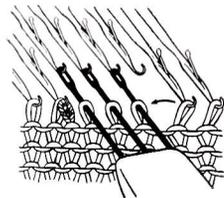

Fig. 69
- b. Using the 3 needle transfer tool, transfer all stitches of the needles from the empty needle to the end, to inward needles towards center of knitter. (See Fig. 69)